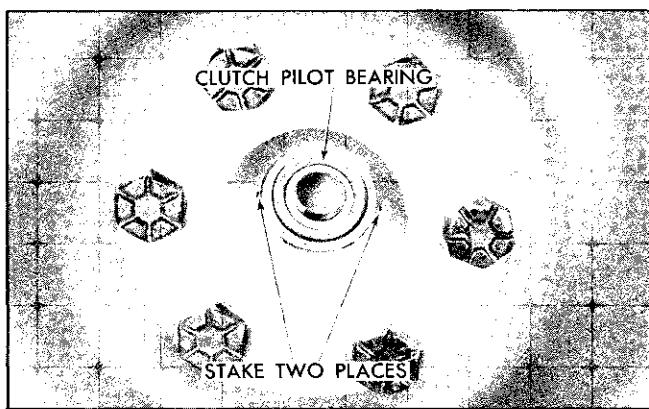

Fig. 7-6 Clutch Pilot Bearing Staked
3. If clutch pilot bearing is to be replaced, use cold chisel to remove staking in end of crankshaft which keeps bearing in place when transmission is removed (Fig. 7-6). Remove clutch pilot bearing from hole in crankshaft.
If bearing is a snug fit in crankshaft, use puller J 4383 and slide hammer J 2619-A to remove bearing. When installing new bearing, see that hole in crankshaft is thoroughly clean. Install new bearing with shielded side toward transmission. Start bearing into hole and tap into place. Stake slightly, as shown in Fig. 7-6, to keep bearing in place in case transmission is removed in the future.